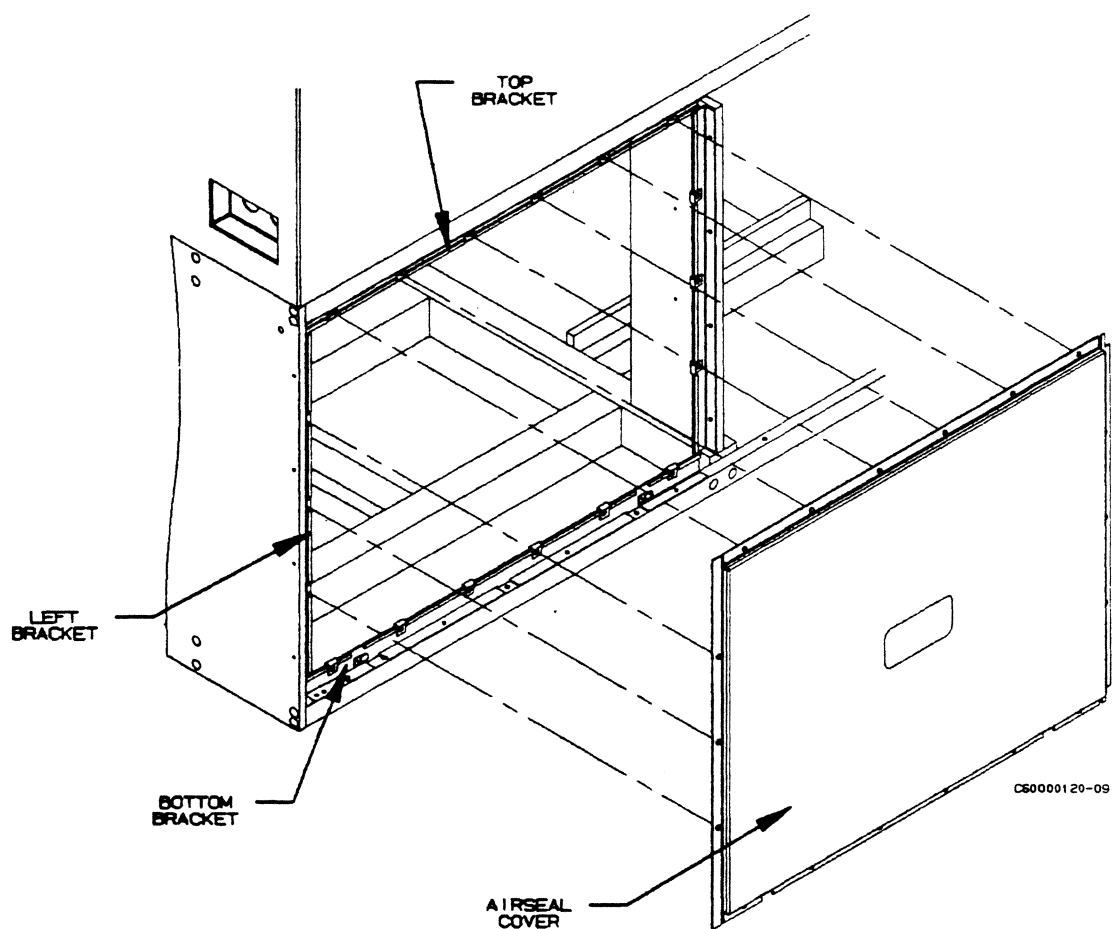

Figure 3-3. Airseal Cover and Mounting Brackets
- 1. Turn airseal cover retaining fasteners (figure 3-3) 1/4-turn counterclockwise to loosen